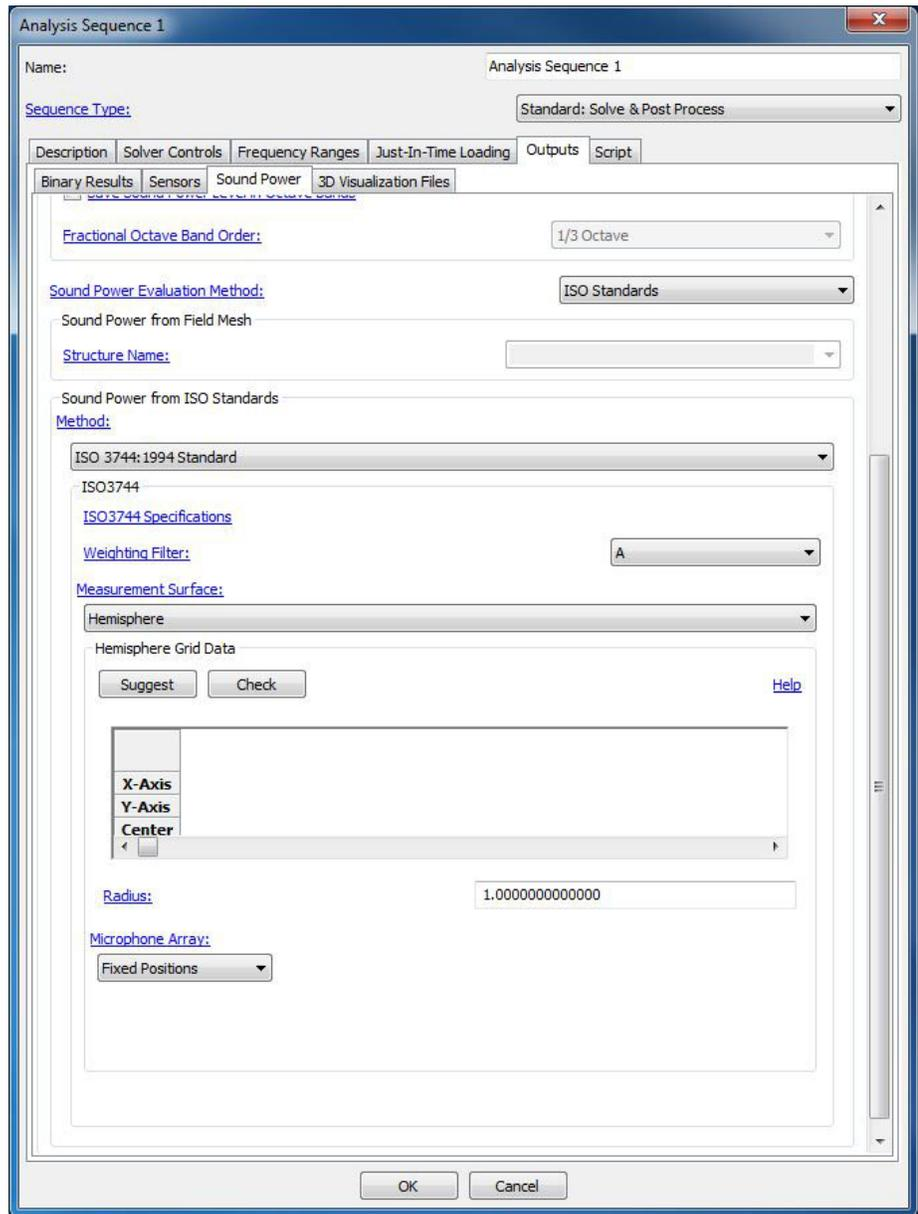

Figure 7.35 ISO3744 sound power standard window.
**7.3.4.8. ISO Standards** In this method, sound power is computed from **ISO Standards**. The following standard methods are implemented: **ISO 3744**, **ISO 3745** and **ISO 9614-1**. Figure 7.35 shows the Sound Power Standards outputs window.
ISO 3744 is an international standard that specifies a method to determine sound power levels of noise sources using sound pressure measurements ([2]). The sound pressure levels are measured on a measurement surface enveloping the source. This method is applicable in an essentially free field near one or more reflecting planes. This method produces results that are of engineering grade (or grade 2) accuracy. For precision grade (grade 1) accuracy use methods specified in **ISO 3745**. Figure 7.35.